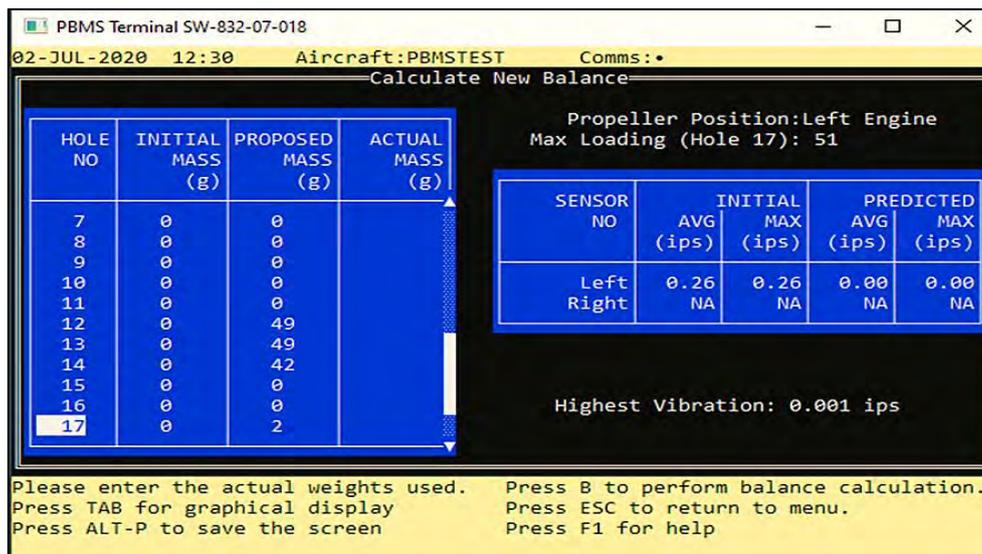

Figure 4-8 Proposed Mass
- (9) Press <ESC> to return to the Calculate New Balance Screen.
- (10) With the current balance weight data and the required flight conditions entered press B to perform the balance calculation. The PBMS Terminal will display the masses required at each hole No to reduce the vibration levels. The PBMS terminal will also display a prediction of the average and maximum vibration levels that would be achieved with the proposed masses installed. (**Ref Fig 4-8**).